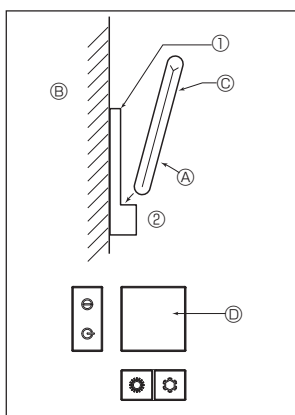
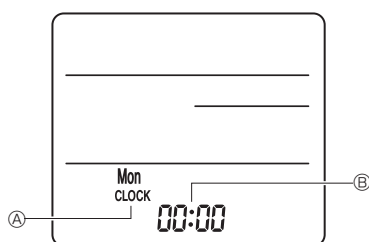

Fig. 7-9
Fig. 7-10
2) Installation method (Fig. 7-9)
- ① Attach the remote controller holder to the desired location using 2 tapping screws.
- ② Place the lower end of the controller into the holder.
④ Remote controller ⑤ Wall ⑥ Display panel ⑦ Receiver
3) Setting (Clock setting) (Fig. 7-10)
- ① Insert batteries or press the **CLOCK** button with something sharp. [CLOCK] ④ and [:] ⑤ blinks.
- ② Press the **RESET** button with something sharp.
- ③ Press the **DAY** button to set the time. Press the **DAY** button to set the Day.
- ④ Press the **CLOCK** button with something sharp at the end. [CLOCK] and [:] lighted.